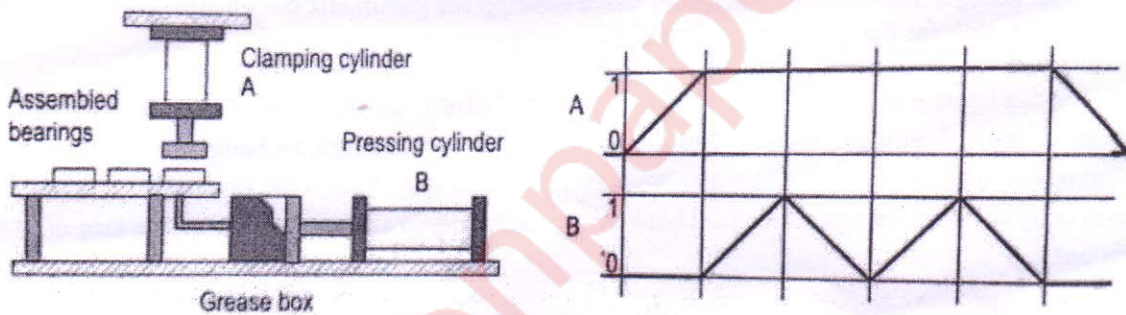

FIGURE 2
6. (a) In a roller bearing greasing machine shown in the Figure 2, the roller bearings are to be clamped by a pneumatic cylinder A. Cylinder B is required to operate a grease press twice for injecting grease into the roller bearing. A pneumatic circuit has to be developed using the cascade method for implementing the control task. 10